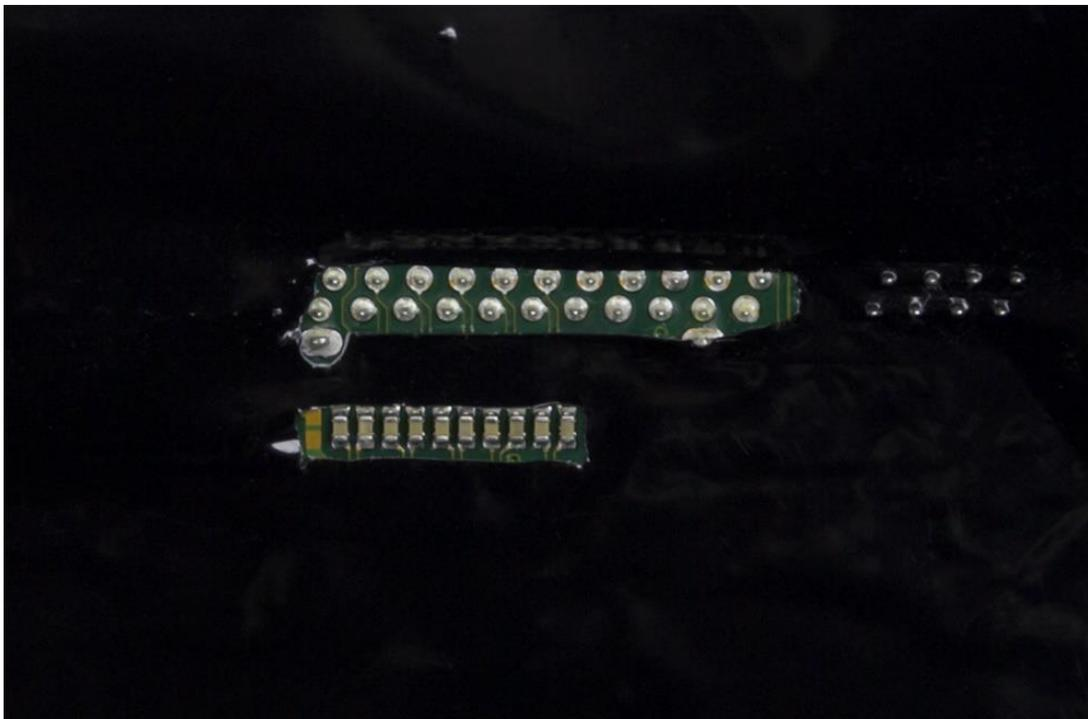

Figure 4. Docking connector area prepared for adapter board installation
Figure 4 shows **Area ❶** which covers docking connector pins with nearby components after the protective film is removed.